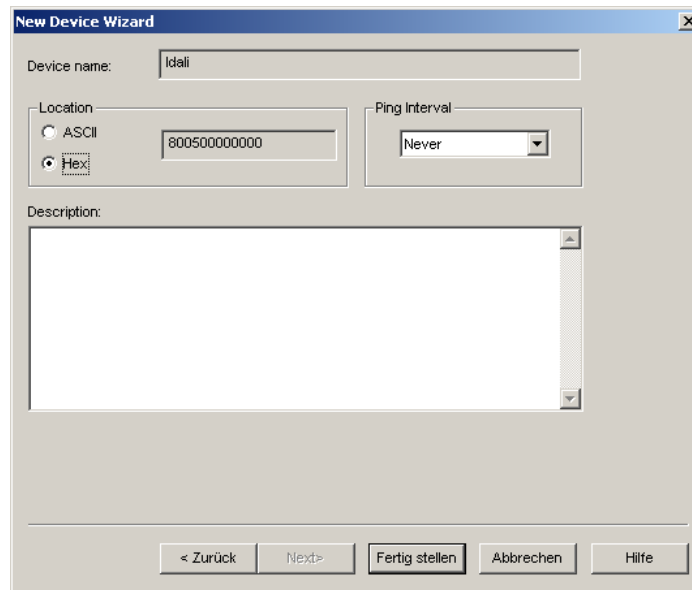

Figure 129: Leave defaults for Location.
5. The following dialog shown in Figure 129 appears, click **Next**.